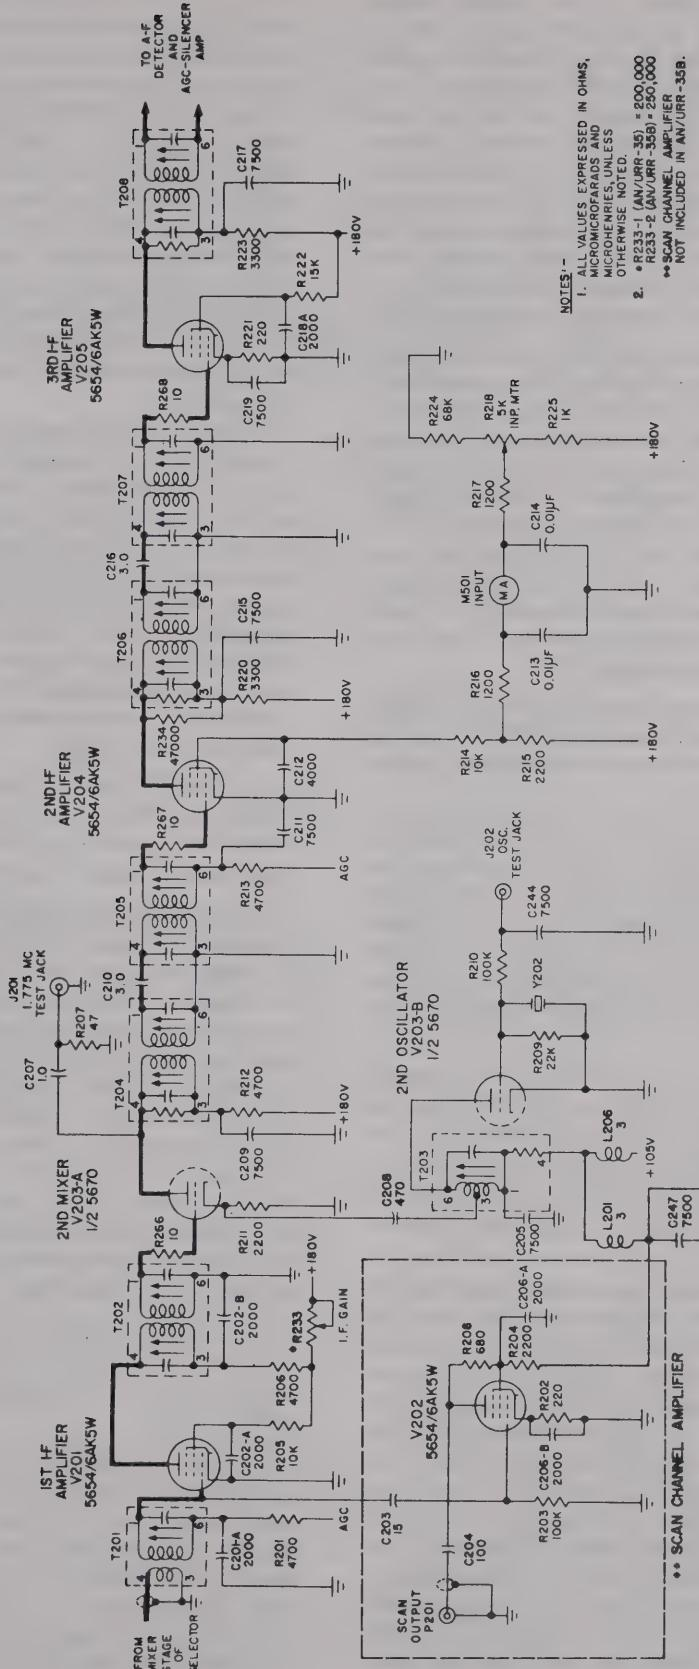

Figure 2-7. I-F Amplifiers, Scan-Channel Amplifier and INPUT Meter Amplifier and INPUT Meter Circuit, Simplified Schematic Diagram
(1) FIRST INTERMEDIATE-FREQUENCY AMPLIFIER.—The i-f signal from the mixer stage of the r-f amplifier section is link-coupled into transformer T201. This transformer, tuned to resonance at 18.6 mc, feeds the grids of both the first i-f amplifier, V201, and the scan-channel amplifier, V202; see figure 2-7. The first i-f amplifier is a 5654/6AK5W pentode. AGC voltage is applied through resistor R201 and the transformer to the grid of the i-f amplifier. The AGC system is decoupled from the i-f signal by resistor R201 and capacitor C201-A. The plate and screen voltages for V201 are obtained from the +180-volt supply through the i-f gain control, R233. Screen voltage is supplied from this potentiometer through
(2) SCAN-CHANNEL AMPLIFIER.—The scan-channel amplifier, V202, is a 5654/6AK5W pentode amplifier; see figure 2-7. The i-f signal is coupled from transformer T201 to the control grid of V202 through capacitor C203. Resistor R203, connected between the control grid of the scan-channel amplifier and ground, is the grid-leak resistor. Cathode bias is supplied by means of resistor R202 and capacitor C206-B. Plate and screen voltages are supplied to this stage through r-f chokes L201 and L206, and through resistor R204 from the +105-volt source. Capacitor C206-A serves as the screen-grid bypass. The plate-load resistor, R208, is tied between the plate and the screen grid, so that the output voltage is developed across resistor R208 only, not across both R208 and R204. Capacitor C247, along with r-f chokes L201 and L206, decouple the power supply from the signal in V202. The output of this stage is taken from load resistor R208, and applied through capacitor C204 to P201, a connector located in the rear apron of the receiver chassis. When not in use, the scan-channel output is terminated by a 47-ohm resistor located in terminating cap E401, at the rear of the low-pass filter.
(3) SECOND OSCILLATOR.—V203-B, one half of a type 5670 tube, is used as a crystal-controlled triode oscillator in order to create a heterodyning signal for the second of the two frequency conversion in this radio set; see figure 2-7. The crystal, Y202, is a type CR-23/U crystal, cut to have a nominal frequency of 16.8250 mc. Grid-leak bias is supplied for the oscillator tube by resistor R209, connected from the control grid to ground and in parallel with the oscillator crystal. Plate voltage for the stage is supplied from the +105-volt source to the plate by way of oscillator transformer T203. The output signal is applied to the mixer stage from a tap on the transformer coil. The oscillator may be tested by measuring the grid voltage developed across grid resistor R209 at test point J202. This test point is connected to the common connection of the grid, the grid-biasing resistor and the crystal, through resistor R210. Resistor R210 and capacitor C244 form a low-pass filter, which isolates the grid circuit from the meter used to measure the grid bias. The sine-wave signal applied to the grid by the oscillator crystal is amplified in the tube and applied to transformer T203. A portion of the signal is applied from a tap on the transformer winding (for impedance matching) to capacitor C208, and from this capacitor to the cathode of the mixer.
(4) SECOND MIXER.—The second mixer, V203-A, is one half of a 5670 twin-triode tube, as shown in figure 2-7. The i-f input signal is applied through the secondary winding of i-f transformer T202 to the control grid of the mixer, and the oscillator injection voltage is applied to the cathode. Resistor R266, in the grid circuit, tends to prevent spurious oscillation, while cathode resistor R211 serves as the point of oscillator injection. Plate voltage is supplied to this stage through resistor R212 and i-f transformer T204. Resistor R212 and capacitor C209 decouple the power supply from the i-f signal in transformer T204.
(5) SECOND AND THIRD INTERMEDIATE-FREQUENCY AMPLIFIERS.—The components and circuitry of the second and third i-f amplifier stages are almost identical; see figure 2-7. The essential difference between the two i-f amplifier stages is that the gain of the second i-f amplifier stage is controlled by the AGC voltage, while the third i-f amplifier stage is self-biased.
(6) "INPUT" METER CIRCUIT.—INPUT meter M501 is provided to indicate the approximate incoming signal strength. It also serves as an alignment indicator for the oscillator-multiplier section when switch S201 is placed in the ALIGN position. The meter circuit is shown in figure 2-7. One side of meter M501 is connected through a low-pass filter, consisting of R216 and C213, to the junction of resistors R214 and R215 in the screen-grid circuit of the second i-f amplifier, V204. The other side of the meter is connected through a similar filter (R217 and C214) to the wiper arm of INP. MTR. potentiometer R218. Potentiometer R218, along with resistors R224 and R225, is connected in a voltage-divider network between the +180-volt supply and ground.